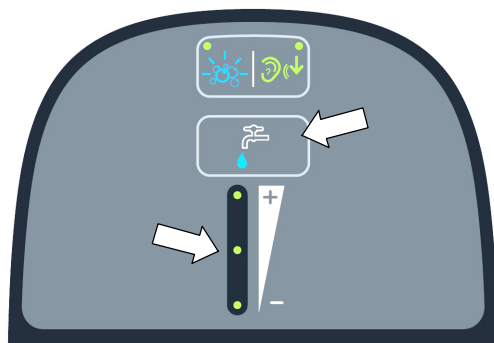

FIG. 35
2. Press the solution flow button to increase or decrease the solution flow rate (Figure 35). The solution flow indicator will display flow setting. No LED = No flow, One LED = Low flow, two LED's = Medium flow, three LED's = High flow.